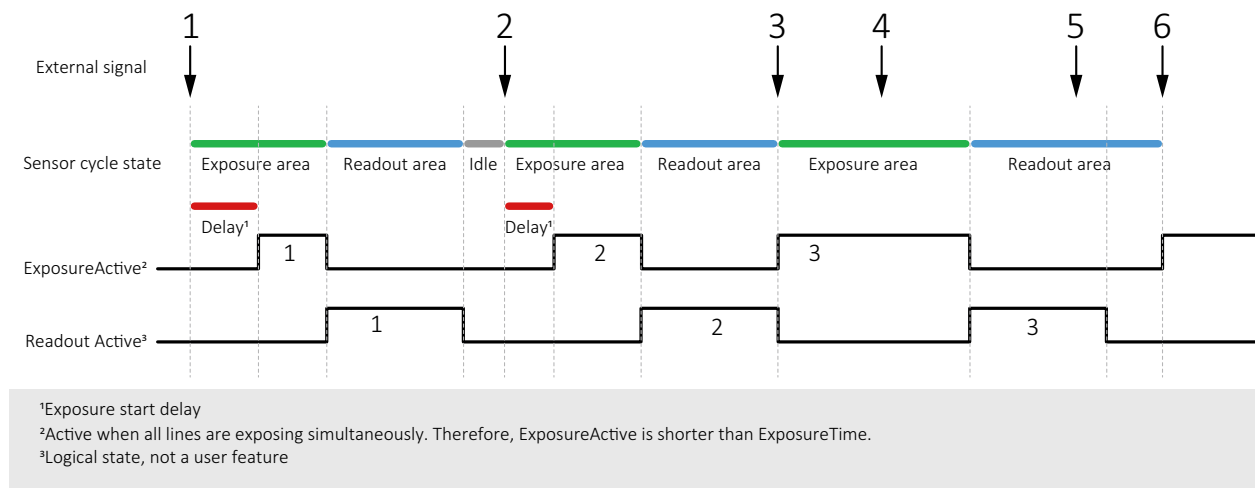

Figure 107: Triggering rolling shutter (RS) cameras
This section describes triggering behavior for **1800 U-500m/c, U-501m NIR, U-1240m/c, and U-2050m/c**. Figure 107 shows how an external signal triggers exposure and readout for cameras with rolling shutter (RS) sensors. Like for global shutter (GS) sensors, readout has a constant duration, acquisition must be active to enable exposure, the end of exposure starts readout.